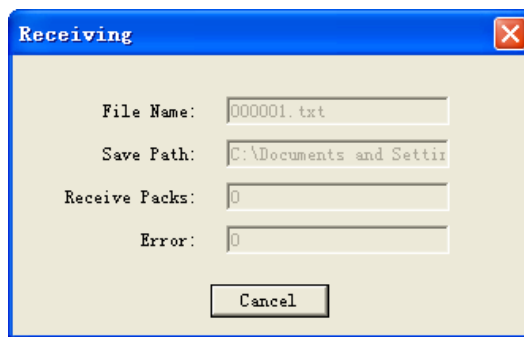

Fig. 11-1-3-3
5. After the file receiving, the status bar of the dialog displays "Received", as is shown in Fig. 11-1-3-4